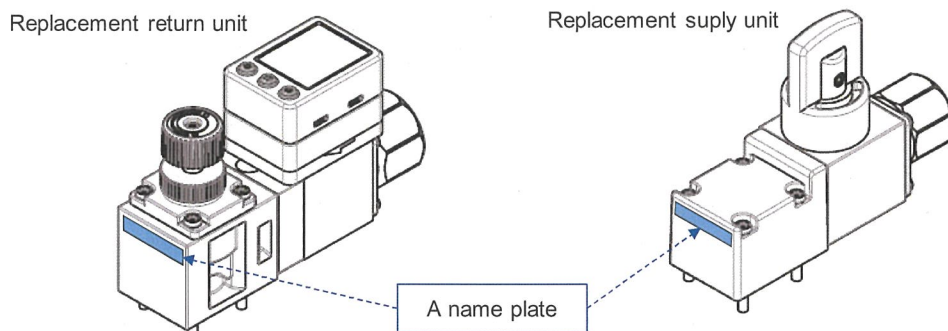

Fig 5. Replacement unit name plate pasting position
- A name plate is pasted to the replacement unit to identify the replacement part. Please refer to Fig. 5 for the pasting position.